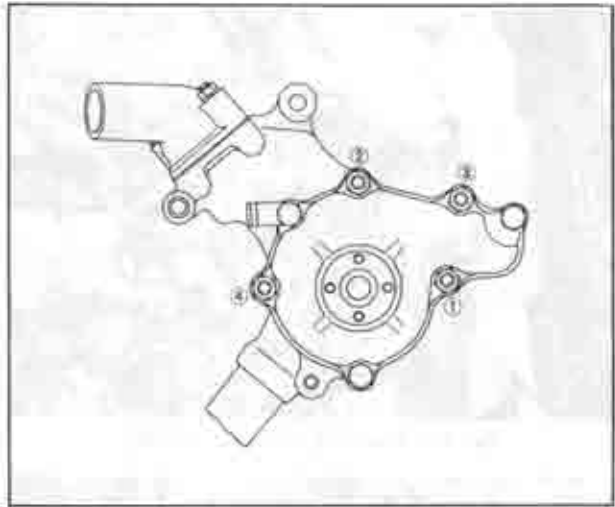

Fig. 3-13 Tightening order of water pump attaching nuts
1. Tighten the water pump attaching nuts evenly to 1.8 ~ 2.7 m·kg (13 ~ 20 ft·lb) sequence shown in Fig. 3-13.